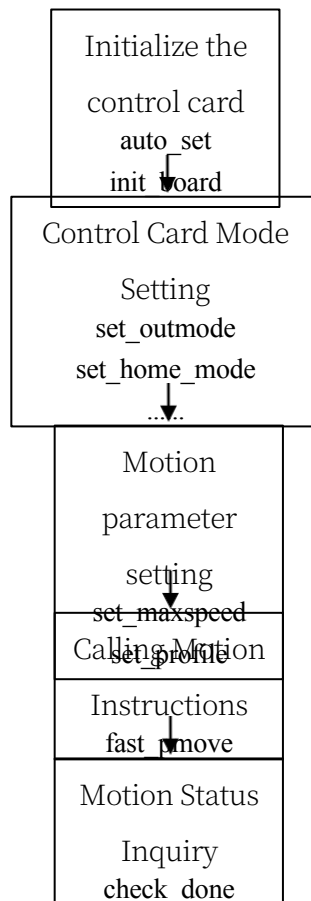

Figure 1-2 Typical Flowchart of Motion Instructions
- ✂ The "Doc" directory contains the user manual and programming manual for the MPC08D. A typical user-written motion process processing flow is shown in Figure 1-2.